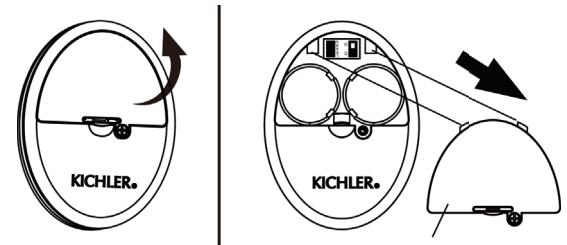

Fig. 27
Step 1. Using a screwdriver, remove the battery cover from the handset and save the screw for later use. (Fig. 27)